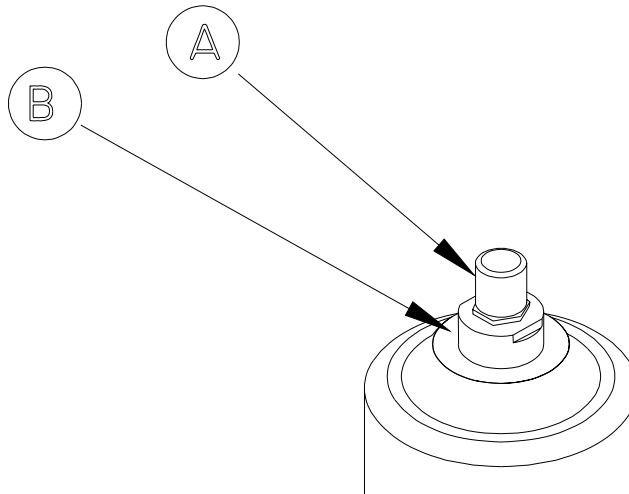

Fig. 4
1. Loosen the nut fig. 4 (A) and screw down the piston cap (B).